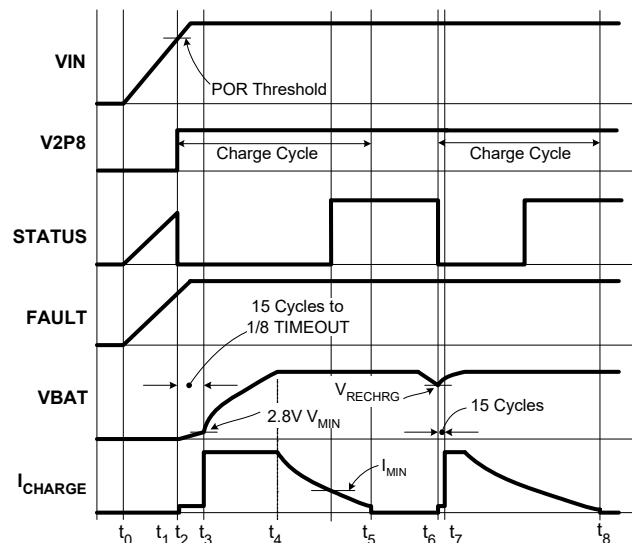

FIGURE 21. OPERATION WAVEFORMS
Figure 21 illustrates the typical signal waveforms for the linear charger from the power-up to a recharge cycle. More detailed Applications Information is given in the following.
The two indication pins, STATUS and FAULT, indicate a LOW and a HIGH logic signal respectively. Figure 21 illustrates the start-up of the charger between t_0 to t_2 .
A charge cycle consists of three charge modes: trickle mode, constant current (CC) mode, and constant voltage (CV) mode. The charge cycle always starts with the trickle mode until the battery voltage stays above V_{MIN} (2.8V typical) for 15 consecutive cycles of the internal oscillator. If the battery voltage drops below V_{MIN} during the 15 cycles, the 15-cycle counter is reset and the charger stays in the trickle mode. The charger moves to the CC mode after verifying the battery voltage. As the battery-pack terminal voltage rises to the final charge voltage V_{CH} , the CV mode begins. The terminal voltage is regulated at the constant V_{CH} in the CV mode and the charge current is expected to decline. After the charge current drops below I_{MIN} (programmable for the 4x4 and 5x5 package and programmed to 1/10 of I_{REF} for the 3x3 package; see “End-of-Charge (EOC) Current” on page 14 for more detail), the ISL6292 indicates the end-of-charge (EOC) with the STATUS pin. The charging actually does not terminate until the internal timer completes its length of TIMEOUT in order to bring the battery to its full capacity. Signals in a charge cycle are illustrated in Figure 21 between points t_2 to t_5 .
After a charge cycle completes, charging is prohibited until the battery voltage drops to a recharge threshold, V_{RECHRG} (see “Electrical Specifications” on page 6). Then a new charge cycle starts at point t_6 and ends at point t_8 , as shown in Figure 21. The safety timer is reset at t_6 .
The trickle mode charge has a time limit of 1/8 TIMEOUT. If the battery voltage does not reach V_{MIN} within this limit, a TIMEOUT fault is issued and the charger latches up. The charger stays in trickle mode for at least 15 cycles of the internal oscillator and, at most, 1/8 of TIMEOUT, as shown in Figure 21.
The end-of-charge current I_{MIN} sets the level at which the charger starts to indicate the end of the charge with the STATUS pin, as shown in Figure 21. The charger actually does not terminate charging until the end of the TIMEOUT, as described in “Total Charge Time” on page 13. The I_{MIN} is set in two ways, by connecting a resistor between the IMIN pin and ground, or by connecting the IMIN pin to the V2P8 pin. When programming with the resistor, the I_{MIN} is set in Equation 6.